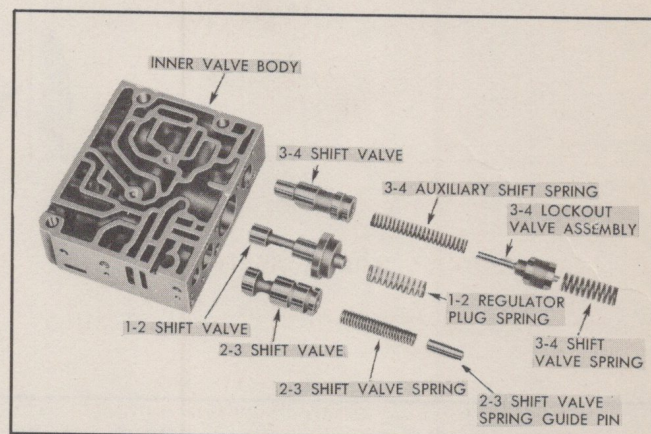

Fig. 17 Shift Valves and Springs Removed
12. Remove 3-4 shift valve spring, 3-4 lockout valve assembly, 3-4 auxiliary shift spring, 3-4 shift valve, 1-2 regulator plug spring, 1-2 shift valve, 2-3 shift valve spring, 2-3 spring guide pin and 2-3 shift valve (Fig. 17).